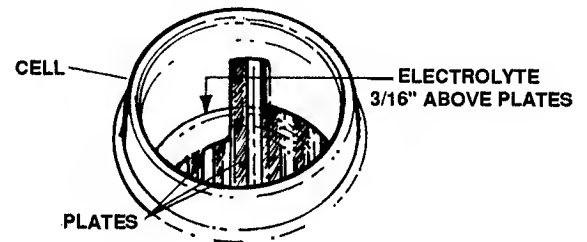

FIGURE 3.2
3. Remove the caps and fill each cell with 1.265 ($\pm .05$) specific gravity battery grade electrolyte to a level that is no more than 3/16" above the top of the plates. See Figure 3.2.